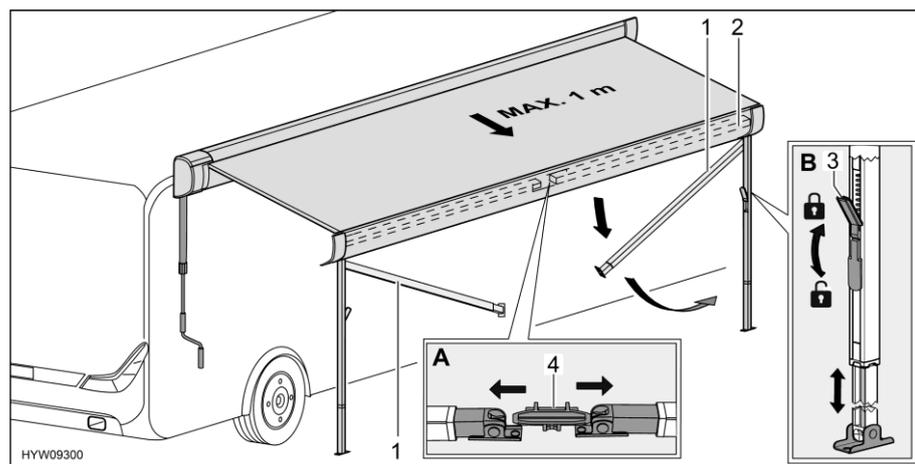

Fig. 47 Preparing support legs
- Release support legs (Fig. 47,1) from holder (Fig. 47,4) in the front bar (Fig. 47,2). In order to do this, apply slight outward pressure on the support legs (Fig. 47,A).
- Release the locks (Fig. 47,3) of the support legs. In order to do this, fold the catch lever downwards.
- Pull lower part of the support legs out to the desired length (Fig. 47,B).
- Close the locks (Fig. 47,3) of the support legs. In order to do this, fold the catch lever upwards.